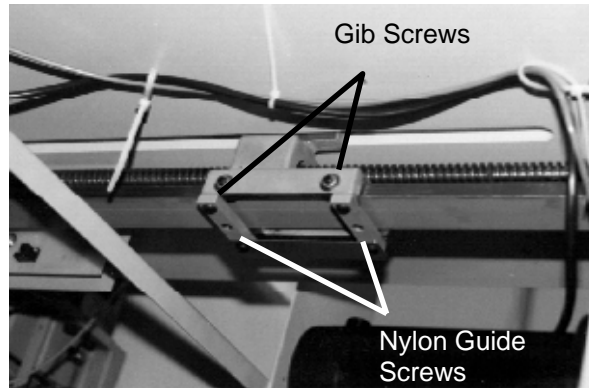

Figure 35
4. Loosen the two side gib screws and the bottom nylon guide screws (Figure 35, next page).